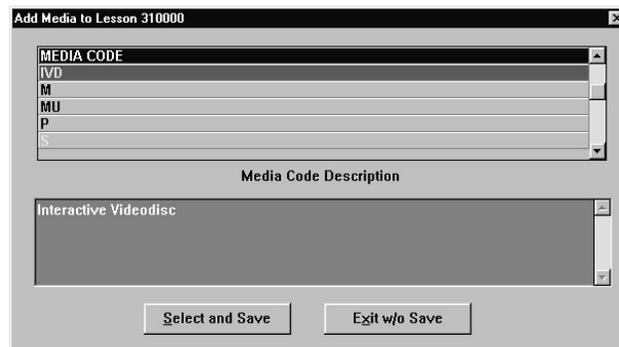
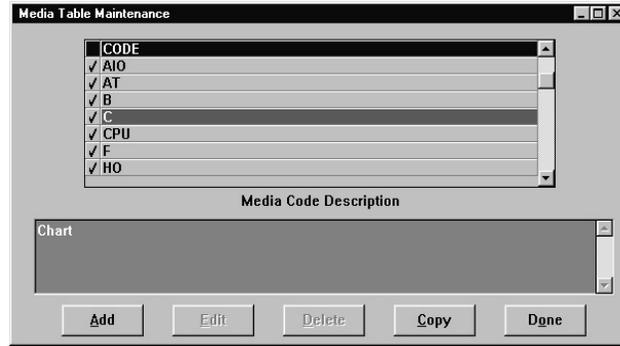
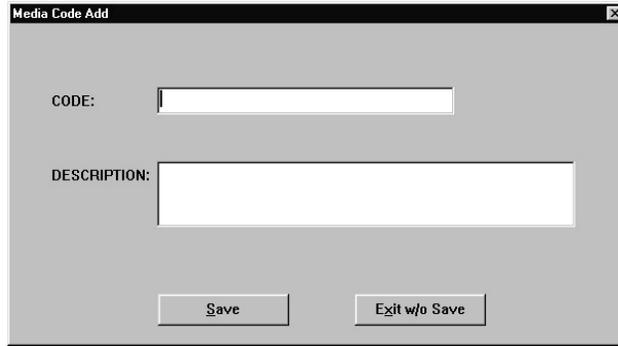
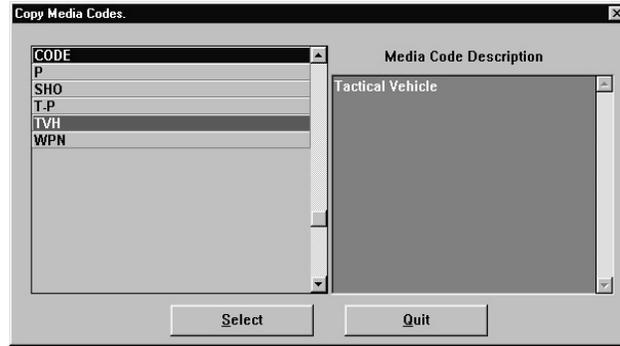

Figure 6-93. Concept Card Media for Lesson
Figure 6-95. Media Table Maintenance
Figure 6-96. Media Code Add
Figure 6-97. Copy Media Codes
2. Click on **Media**. The Concept Card Media for Lesson selection list box (Figure 6-93) opens. The listing displays any media that have already been added to the concept card.
- From the Concept Card Media for Lesson selection list box (Figure 6-93), mark the media you wish to remove from the concept card using the multiple select feature.
- From the Concept Card Media for Lesson selection list box (Figure 6-93), click on **Media Table**. The Media Table Maintenance selection list box (Figure 6-95) opens.
- From the Media Table Maintenance selection list box (Figure 6-95), click on Add. The Media Code Add dialog box (Figure 6-96) opens.
- From the Media Table Maintenance selection list box (Figure 6-95), click on **C**opy. The Copy Media Codes selection list box (Figure 6-97) opens with a list of all other media added to other courses on the same computer or server as your MCAIMS installation.